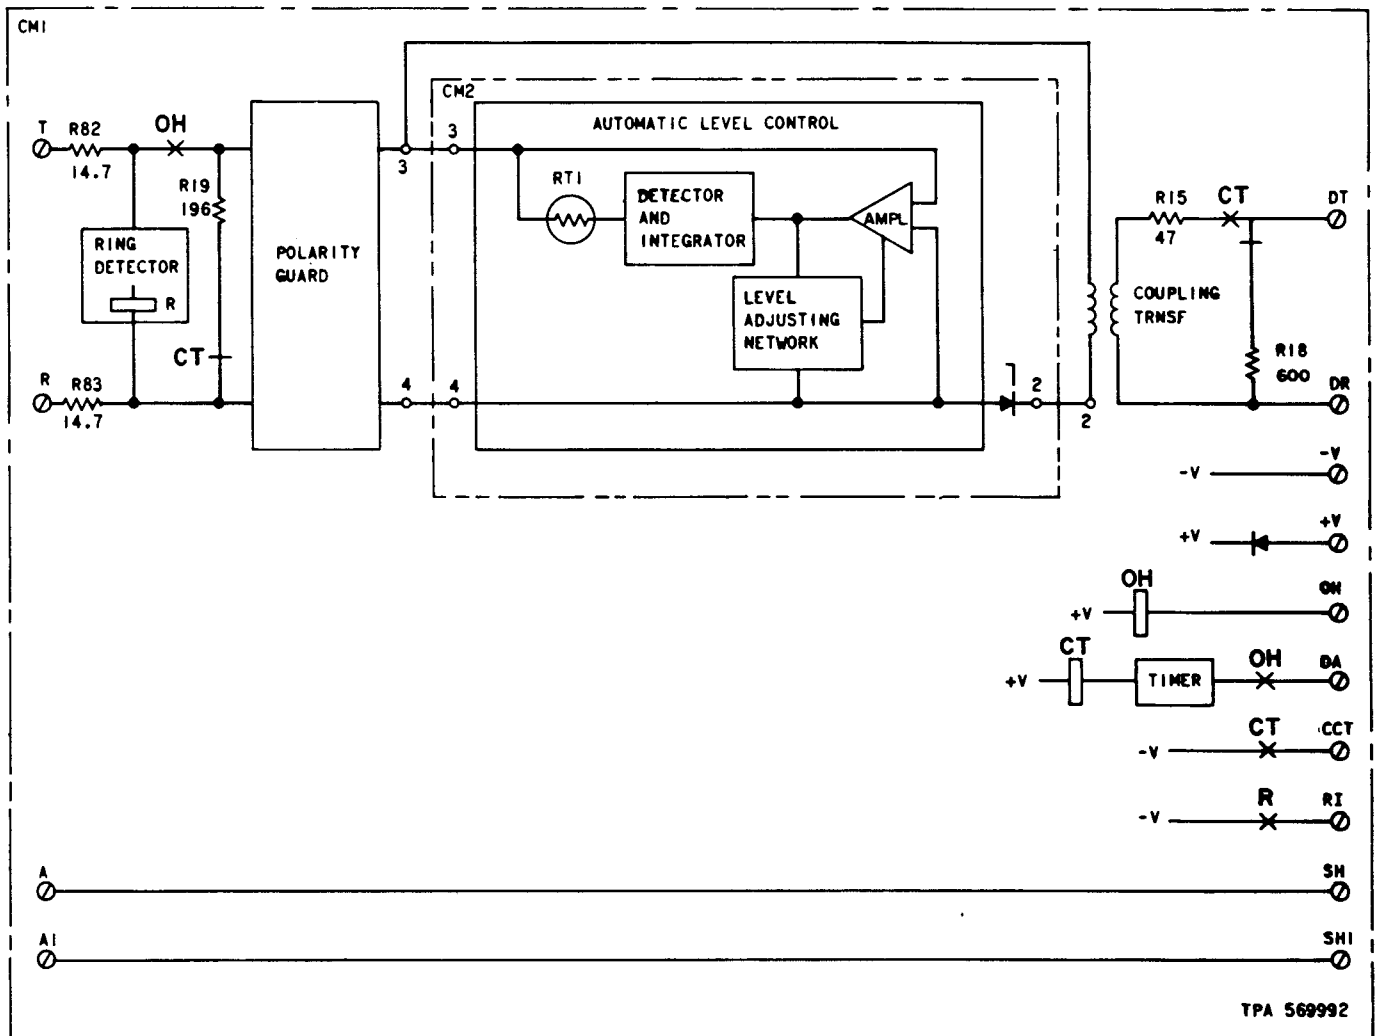

Fig. 3—1001D Data Coupler, Data Mode
**2.10 Coupler Transmission Path:** The coupler transmission path consists primarily of a coupling transformer, an automatic level control (ALC) circuit, and a polarity guard (Fig. 3). The transformer terminates the telephone loop and provides a two-way protective function (ie, hazardous voltages, surge protection, and longitudinal isolation). The ALC circuit prevents the customer signal level from exceeding the prescribed maximum limit. The polarity guard maintains the polarity of the line current and voltage required by the ALC circuit.
**2.15 Automatic Answering:** The ring detector (Fig. 3) is activated when the 20-Hz ringing signal is present on the line indicating an incoming call. The R relay, part of the ring detector, operates and releases in response to each half cycle of the ringing current. The contact closures of the R relay are used to close the RI interface lead to  $-V$ . ***The contact closures must be integrated by the customer data terminal to protect against false operations due to surges or to dial pulses. At least two cycles of the 20-Hz ringing signal should be detected before reacting to the signal.***